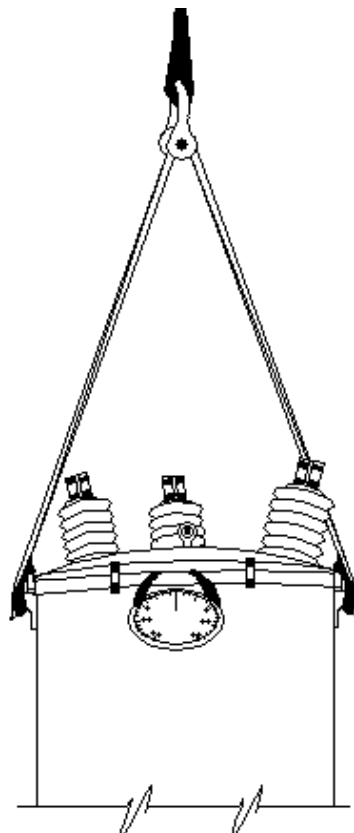

FIGURE 1
- 2.3 Determine if available slings will meet the weight requirements. Use two slings attached to the load line and to the regulator lifting lugs. Figure 1.